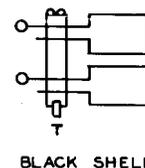

Fig. 2—327C Plug
- (a) **327C:** The 327C plug finger (Fig. 2) nearest the grooved side is solid metal, and the tip and sleeve connections on the other finger are insulated from one another.